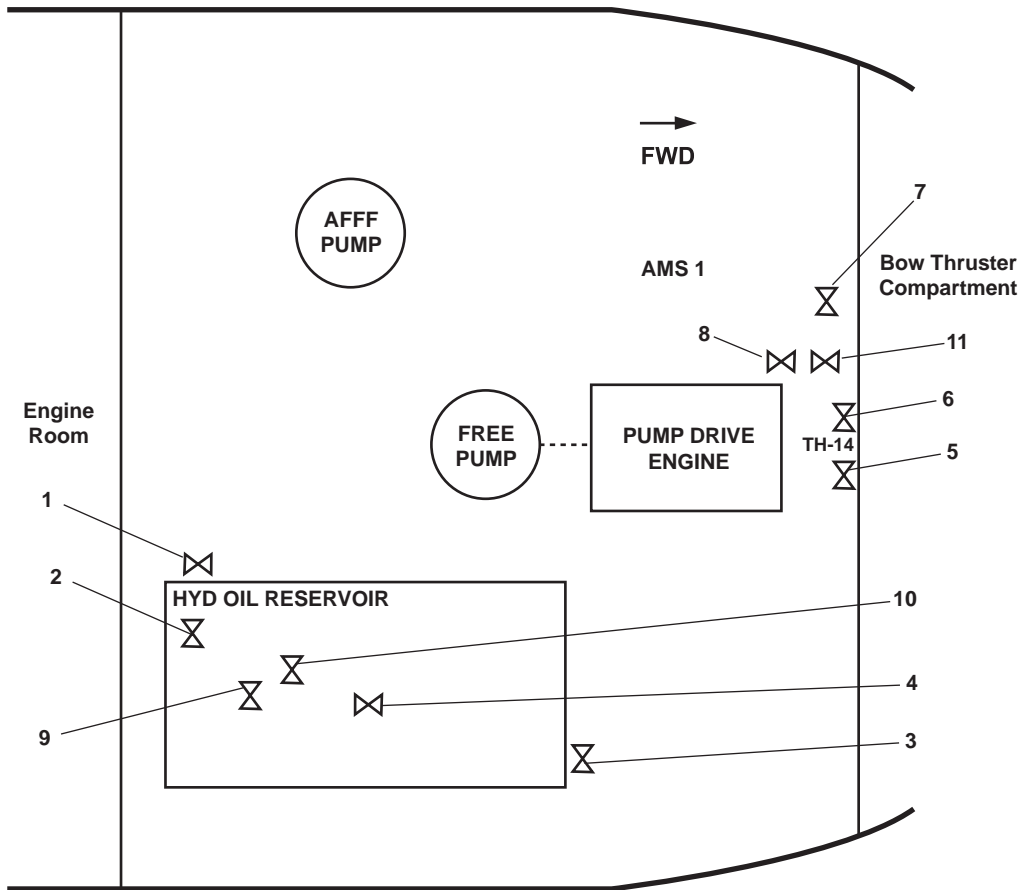

Figure 12. Hydraulic Valve Locations
- (1) GS-77, HYD OIL CLR DISCH (figure 12, item 1), hydraulic oil circulation discharge
- (2) GS-75, TOW WN HYD OIL CLR SPLY (figure 12, item 2), towing machine hydraulic oil circulation supply
- (3) CH-26, DRN CUT-OUT TOW WN HYDR (figure 12, item 3), towing machine hydraulic drain
- (4) CH-27, RTN CUT-OUT TOW WN HYDR (figure 12, item 4), towing machine hydraulic return
- (5) TH-1, C.O.V. – PMP DISCH. TO TOW WN. HYD (figure 12, item 5), pump discharge to towing machine hydraulics
- (6) TH-14, FLOW CONTROL (figure 12, item 6), pump supply cutoff valve
- (7) TH-13, FLOW CONTROL (figure 12 item 7)
- (8) TH-12, FLOW CONTROL (figure 12, item 8)
- (1) TH-4, DRAIN CRSVR. TO CENT. HYD. (figure 12, item 9), cross connect drain valve
- (2) TH-3, RETURN CRSVR. TO CENT. HYD (figure 12, item 10), cross connect from towing hydraulics to central hydraulics
- (3) TH-2, PRESS CRSVR CTL HYDR TOW WN HYDR (figure 12, item 11), crossover valve to the central hydraulic reservoir